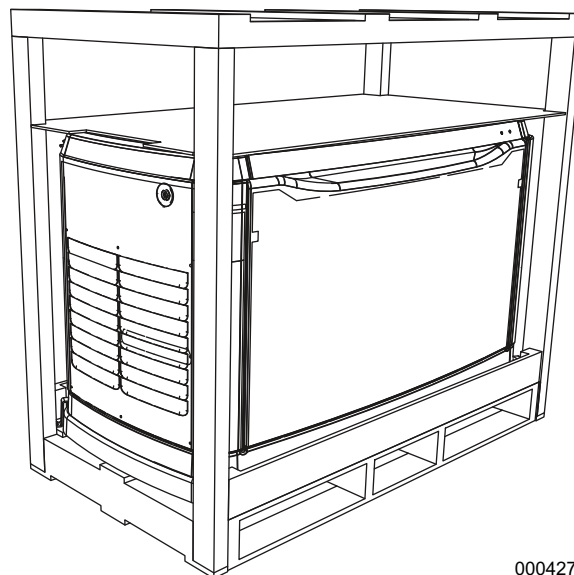

Figure 2-1. Crated Generator
2. See Figure 2-1. Remove the wood frame.